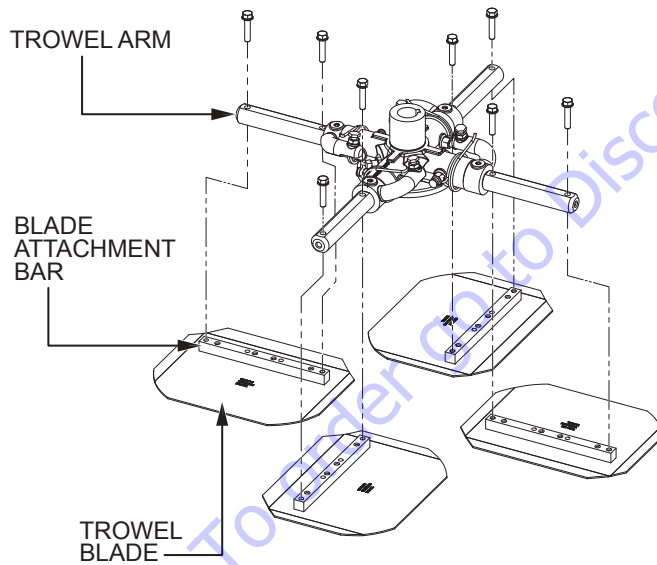

Figure 63. Blade Removal
- Remove the bolts and lock washers from each of the trowel arms, then remove the blades as shown in Figure 63.